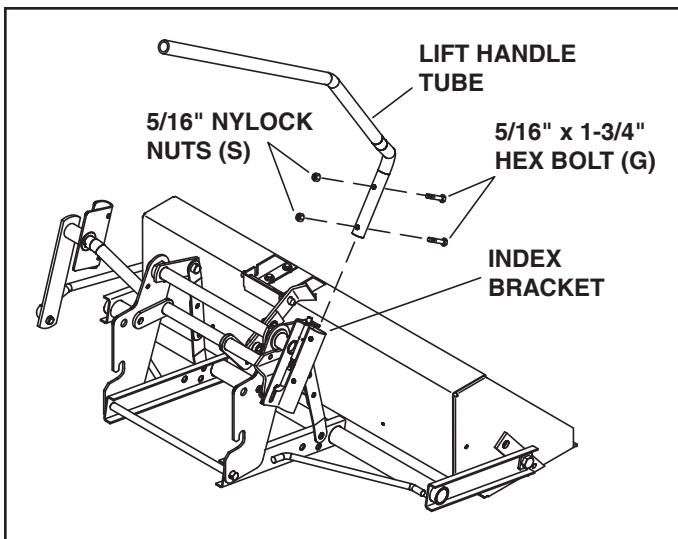

FIGURE 10
STEP 11: INSTALL LIFT HANDLE TUBE (SEE FIGURE 10)
- Install the lift handle tube into the index bracket using two 5/16" x 1-3/4" hex bolts (G) and 5/16" nylock nuts (S).